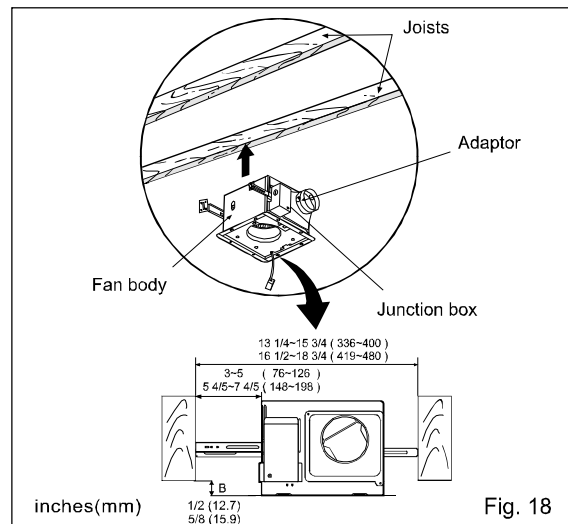

Fig. 18
3. Insert the fan body between joists. Make sure the fan body is level and square (perpendicular) with the joists. (Fig. 18)